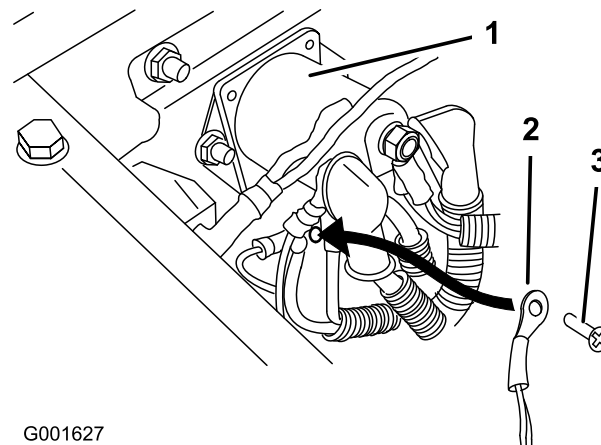

Figure 20
2. Remove one of the ground screws located under the solenoid (Figure 20).
3. Install the wire harness to the ground block with the previously removed ground screw (Figure 20).